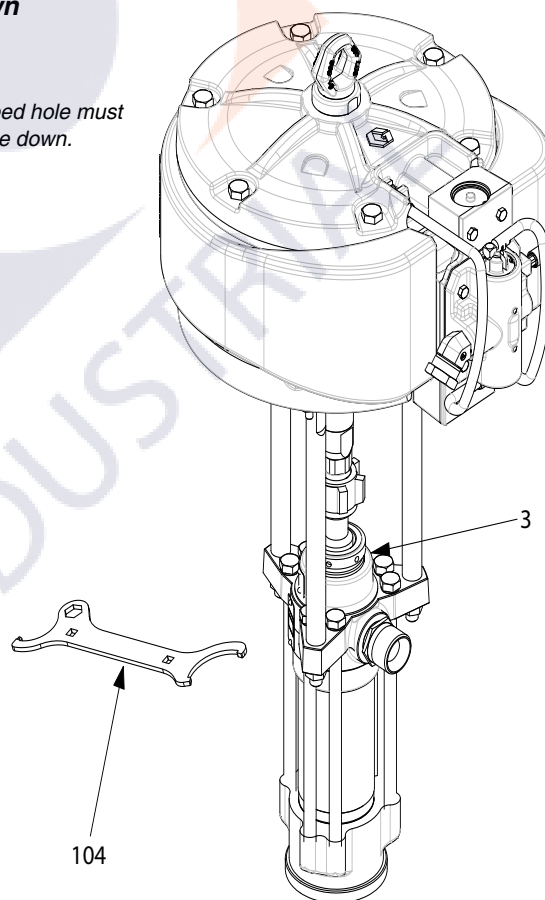

Fig. 6
Fill the packing nut/wet-cup (3) 1/3 full with Graco Throat Seal Liquid (TSL) or compatible solvent. See Fig. 6. Using the supplied wrench (104), adjust the packing nut weekly so it is just snug; do not overtighten. Follow the **Pressure Relief Procedure** at left.
4. If the pump fails to prime properly, open the bleeder valve (35) slightly. Use the bleed hole on the underside of the valve body (34) as a priming valve until the fluid appears at the hole. See Fig. 6. Close the plug (35).
8. If the pump fails to prime properly, open the bleeder valve (35) slightly. Use the bleed hole, on the underside of the body (34), as a priming valve until the fluid appears at the hole. See Fig. 6. Close the plug (35).